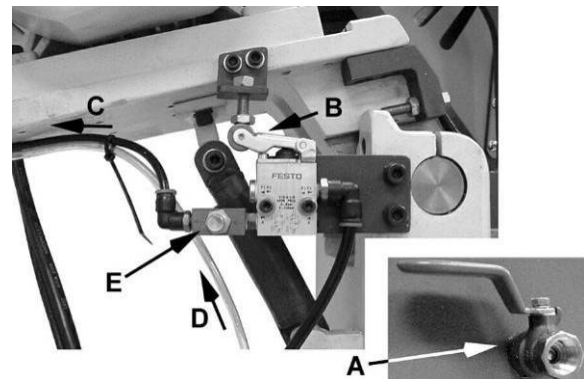

Figure 2
The *mist coolant system* sprays a coolant mist onto the saw blade during the cutting operation, cooling it and the work piece being cut. Air is supplied from a compressor to the *air intake valve* (A) located near the bottom of the cabinet on the left side. When the head is moved off of the top limit switch (Figure 2) when beginning a cut, the *pneumatic switch* (B) is activated, allowing air to flow through the *air tube* (C) and into the orifice (not shown), causing coolant to be drawn through the *coolant tube* (D). The *pneumatic valve* (E) adjusts the amount of airflow. Air and coolant is mixed in the orifice and sprayed onto the saw blade.